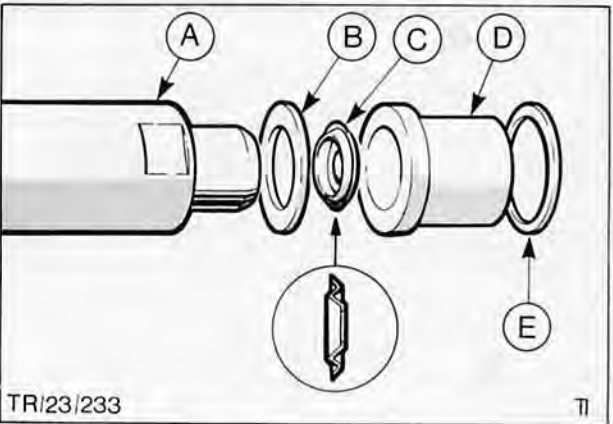

Fig. 77. Injector to head sealing washers
NOTE: In some cases the heat shield, 'D' in Fig. 77, will come out with the injector. If this happens a new sealing washer 'E' must be fitted.
10. Using new wave washers refit sealing and wave washers to cylinder head, Fig. 77.
NOTE: Ensure that washers are fitted the correct way round ('E' in Fig. 77).